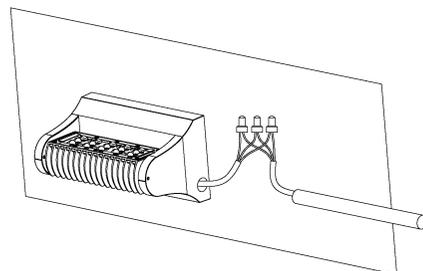

Figure 2-4
4. Fix the luminaire on the bracket; make wiring connection from side ensure connections are insulated. (Figure 2-4)